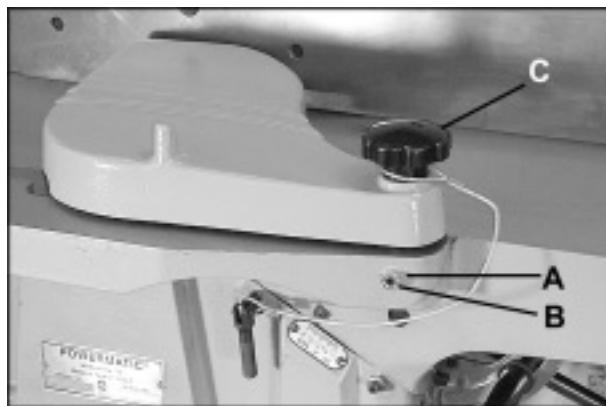

FIGURE 7
1. Loosen lock nut (A) on rabbeting ledge with a 1/2" wrench. Loosen set screw (B) with a 5/32" hex wrench. See Figure 7.
3. To re-install the guard properly, tension must be placed on the spring. Push the guard shaft down into the hole on the rabbeting ledge, and turn the top knob (C) clockwise until the desired tension is reached.
4. Continue holding the knob, and tighten the set screw (B). Tighten the lock nut (A) to prevent set screw from backing out.